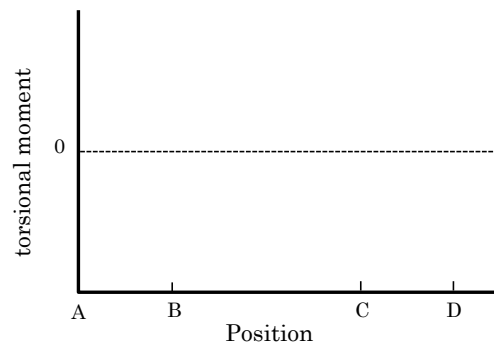

Fig. 7
- (1) Find the torsional moment of each part of the shaft and draw a graph in the form of Figure 7.
- (2) Answer the direction in which the fracture surface is expected to be formed, together with the reason.
- (3) Assuming that failure occurs when the maximum principal stress of the shaft reaches the tensile strength of the material, σ_{TS} , find the relationship between σ_{TS} and M_{t0} .